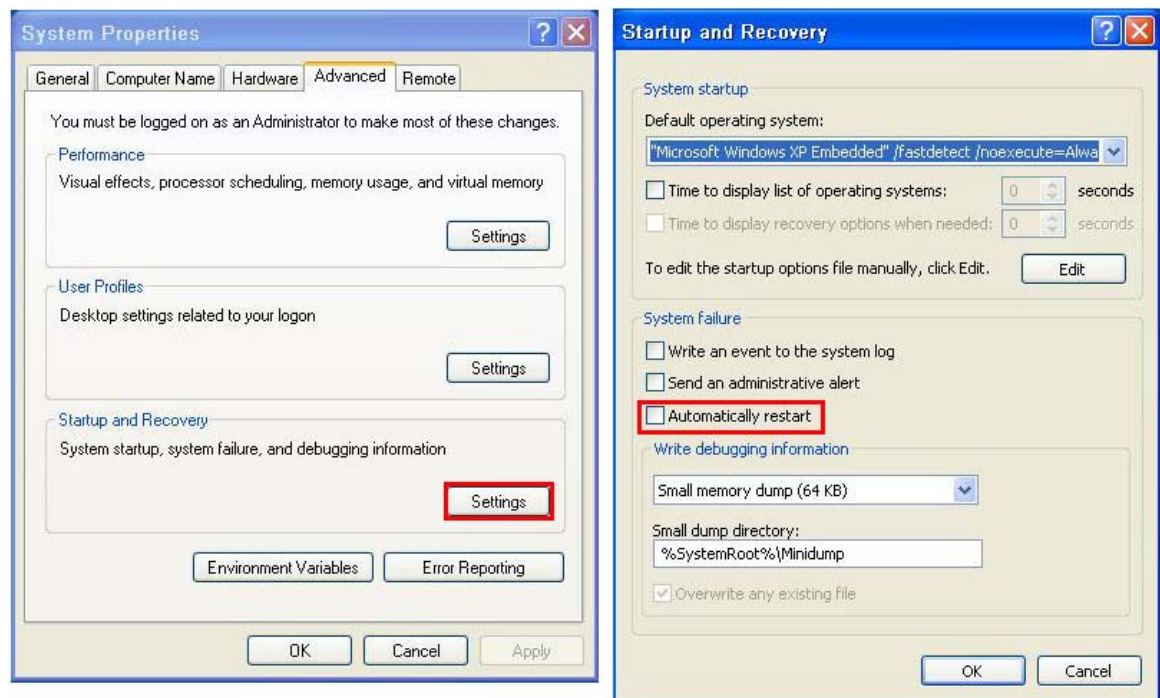

Figure B-23: Disable Automatically Restart
Step 3: **Disable the automatically restart function before creating the factory default image.** Go to: My Computer → Properties → Advanced. Click the Settings button of Startup and Recovery. Deselect “Automatically restart”. Click OK to save the settings and exit. (See Figure B-23)